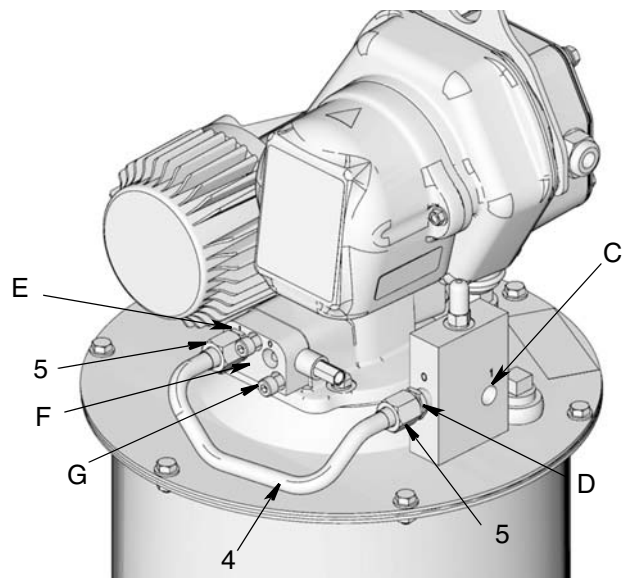
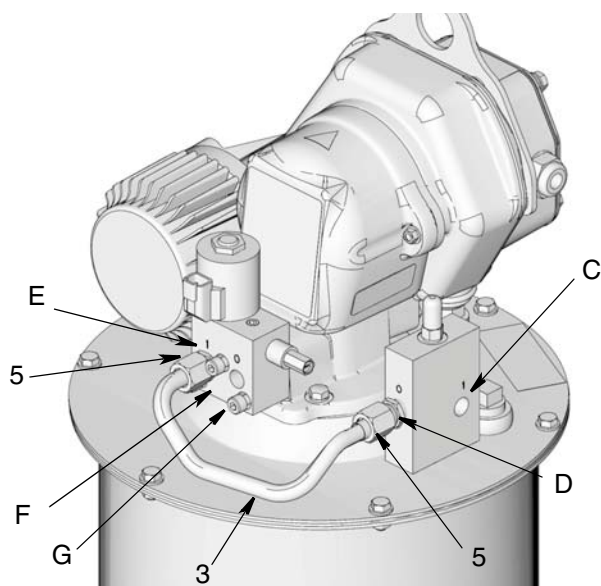

FIG. 15
FIG. 16
- Supply tube (4) (marked with the 16V750 aluminum tag) and two connector fittings (5) are used for manifold assemblies. Supply tube (3) can be discarded. It is not used for a manifold installation.
a. Install connector fittings (5) to manifold inlet (E) and Auto-Fill Shut Off outlet (D). Wrench tighten each fitting (5) securely.
b. Install end of supply tube (4) to manifold inlet (E) first and then install the other end of the supply tube to the Auto-Fill Shut Off outlet (D) and as shown in FIG. 15.
- Supply tube (3) (marked with the 16X381 aluminum tag) and two connector fittings (5), are used for vent valve assemblies. Supply tube (4) can be discarded. It is not used for a vent valve installation.
- Install connector fitting (5) to Auto-Fill Shut Off outlet (D) and Vent Valve inlet (E).
- Install end of supply tube (3) to Vent Valve inlet (E) first. Then install the other end of the supply tube to the Auto-Fill Shut Off outlet (D) as shown in FIG. 16.
- Install a (user supplied) lubricant supply hose (L) between Auto-Fill Shut Off inlet (C) (FIG. 15 or FIG. 16) and the remote filling station pump (K).
- A pressure relief valve (G) and overflow container (H) (for collecting excess fluid that drains during pressure relief) **must** be installed in an easily acces-